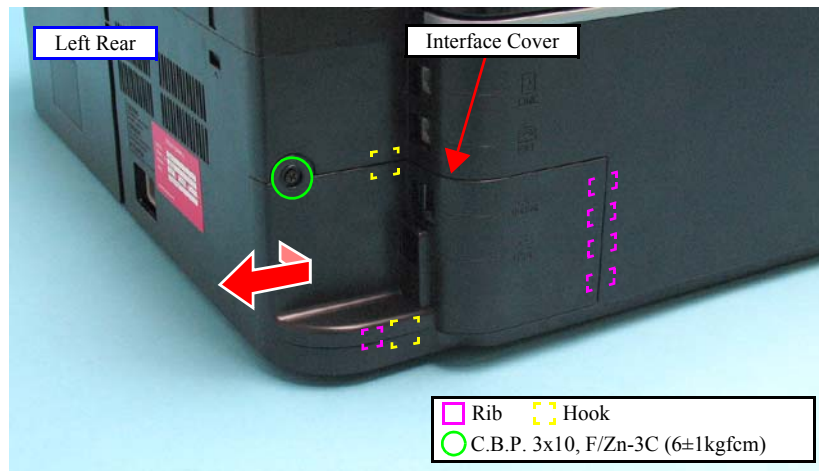

Figure 4-3. Removing the Interface Cover
- When installing the Interface Cover, insert the ribs (x5) of the Interface Cover inside the Housing as shown in Figure 4-3 and secure them with the hooks (x2).